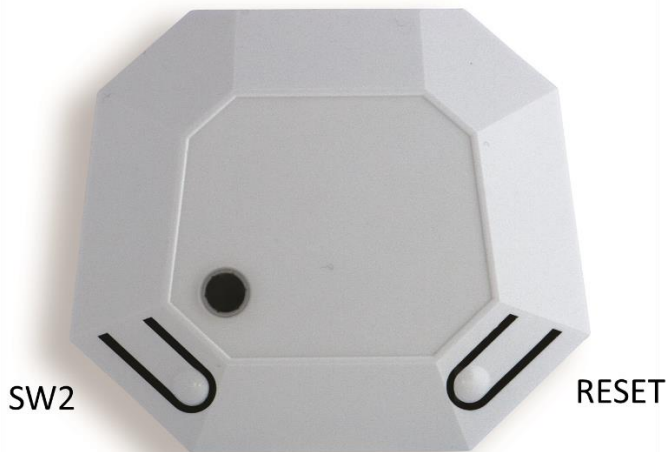

Figure 24: C209 with enclosure
2. Press and hold the SW2 button on the C209 while resetting the board (by inserting the USB cable or clicking the RESET button) to set the bootloader in “download” mode. See also Figure 24.
3. Press and hold the SW2 button on the C209 while resetting the board (by inserting the USB cable or clicking the RESET button) to set the bootloader in “download” mode. See also Figure 24.